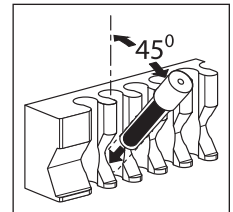

Figure 1
3. Position the biological indicator in the incubator's metal heating block (See Figure 1). Place the bottom of the indicator into the metal heating block so that the indicator is at an angle of approximately 45° and the cap is above the metal block.